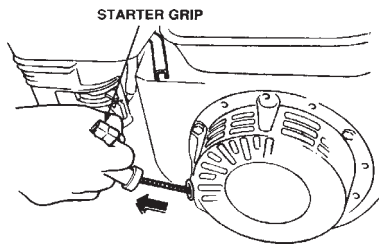

Figure 6. Starter Grip
- Grasp the starter grip (Figure 6) and slowly pull it out. The resistance becomes the hardest at a certain position, corresponding to the compression point. Pull the starter grip briskly and smoothly for starting.